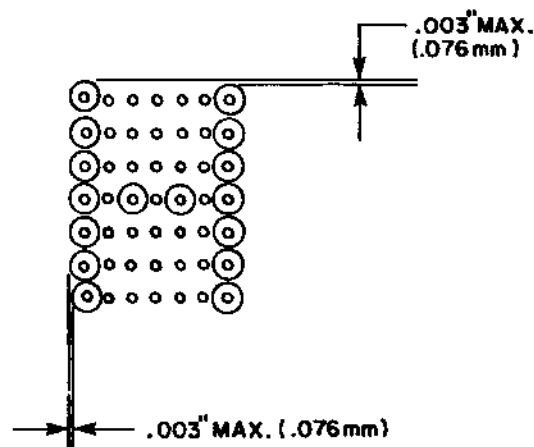

Figure 3-20. Dot Matrix Character Edge Variation
4. Observe the print sample for clear character recognition and uniform character intensity across the entire print line. Observe the characters for uniform dot density (or character fill) and edge definition (see Figure 3-20) within a maximum dot edge variation of .003 inch (.076 mm).